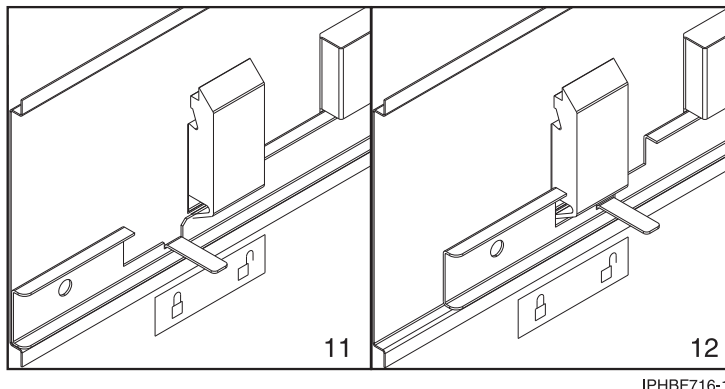

Figure 113. Placing the locked/unlocked sticker on the cover panel
- e. Place a locked/unlocked sticker on the inside of the cover panel so that when the slide bar is in the locked position, the tab is over the locked symbol (11), as shown in Figure 113 on page 112, and over the unlocked symbol (12), when the slide bar is unlocked.